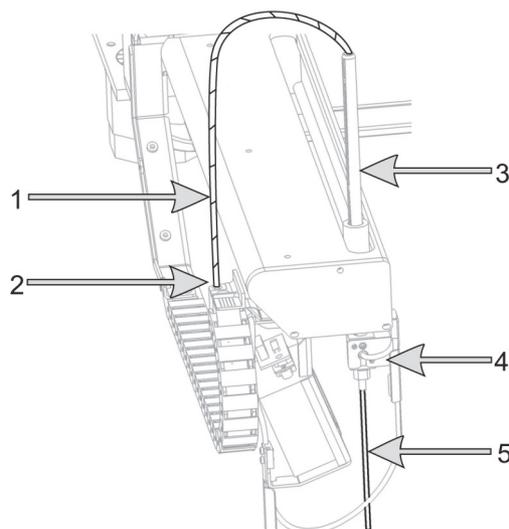

Figure 133: Aspirating probe assembly:
9. Hold the exposed tip below the insulator block and gently push up to ensure it is loose. Do not immediately pull the tubing from the top of the aspirating probe rack (item 3 in Figure 133), as this may dislodge the tubing from the tip.
11. Unscrew the aspirating probe tube connector (position 2 in Figure 133) from the "chain" on the left of the robot arm.
5. While still holding the aspirating probe down, tighten the thumb screw at the back of the insulator block (item 4 in Figure 133). Tighten to firm finger tightness.
6. Screw the aspirating probe tube connector (item 2 in Figure 133) to the "chain" block so it is thumb-tight. Do not over-tighten.